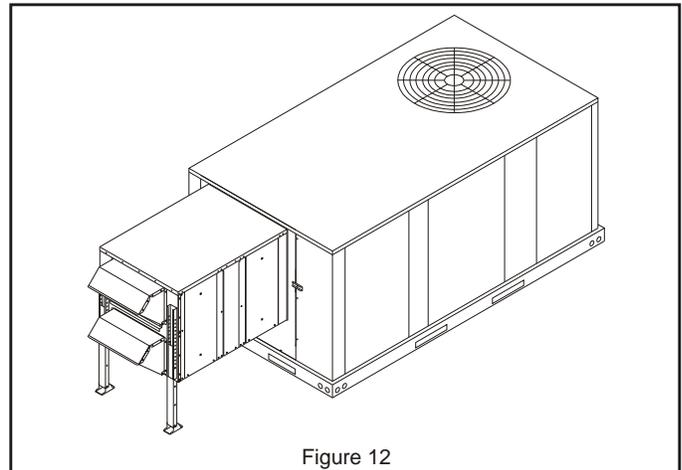

Figure 12
- Check and seal, if necessary, along the edges where the ERS meets the rooftop unit to ensure there is no air leakage. Final assembly should resemble **Figure 12.**